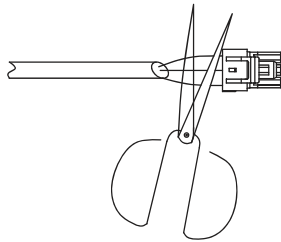

Fig. 17 — Shearing Outdoor Connector
- Cut the connector on the outdoor unit side as shown in Fig. 17 below.